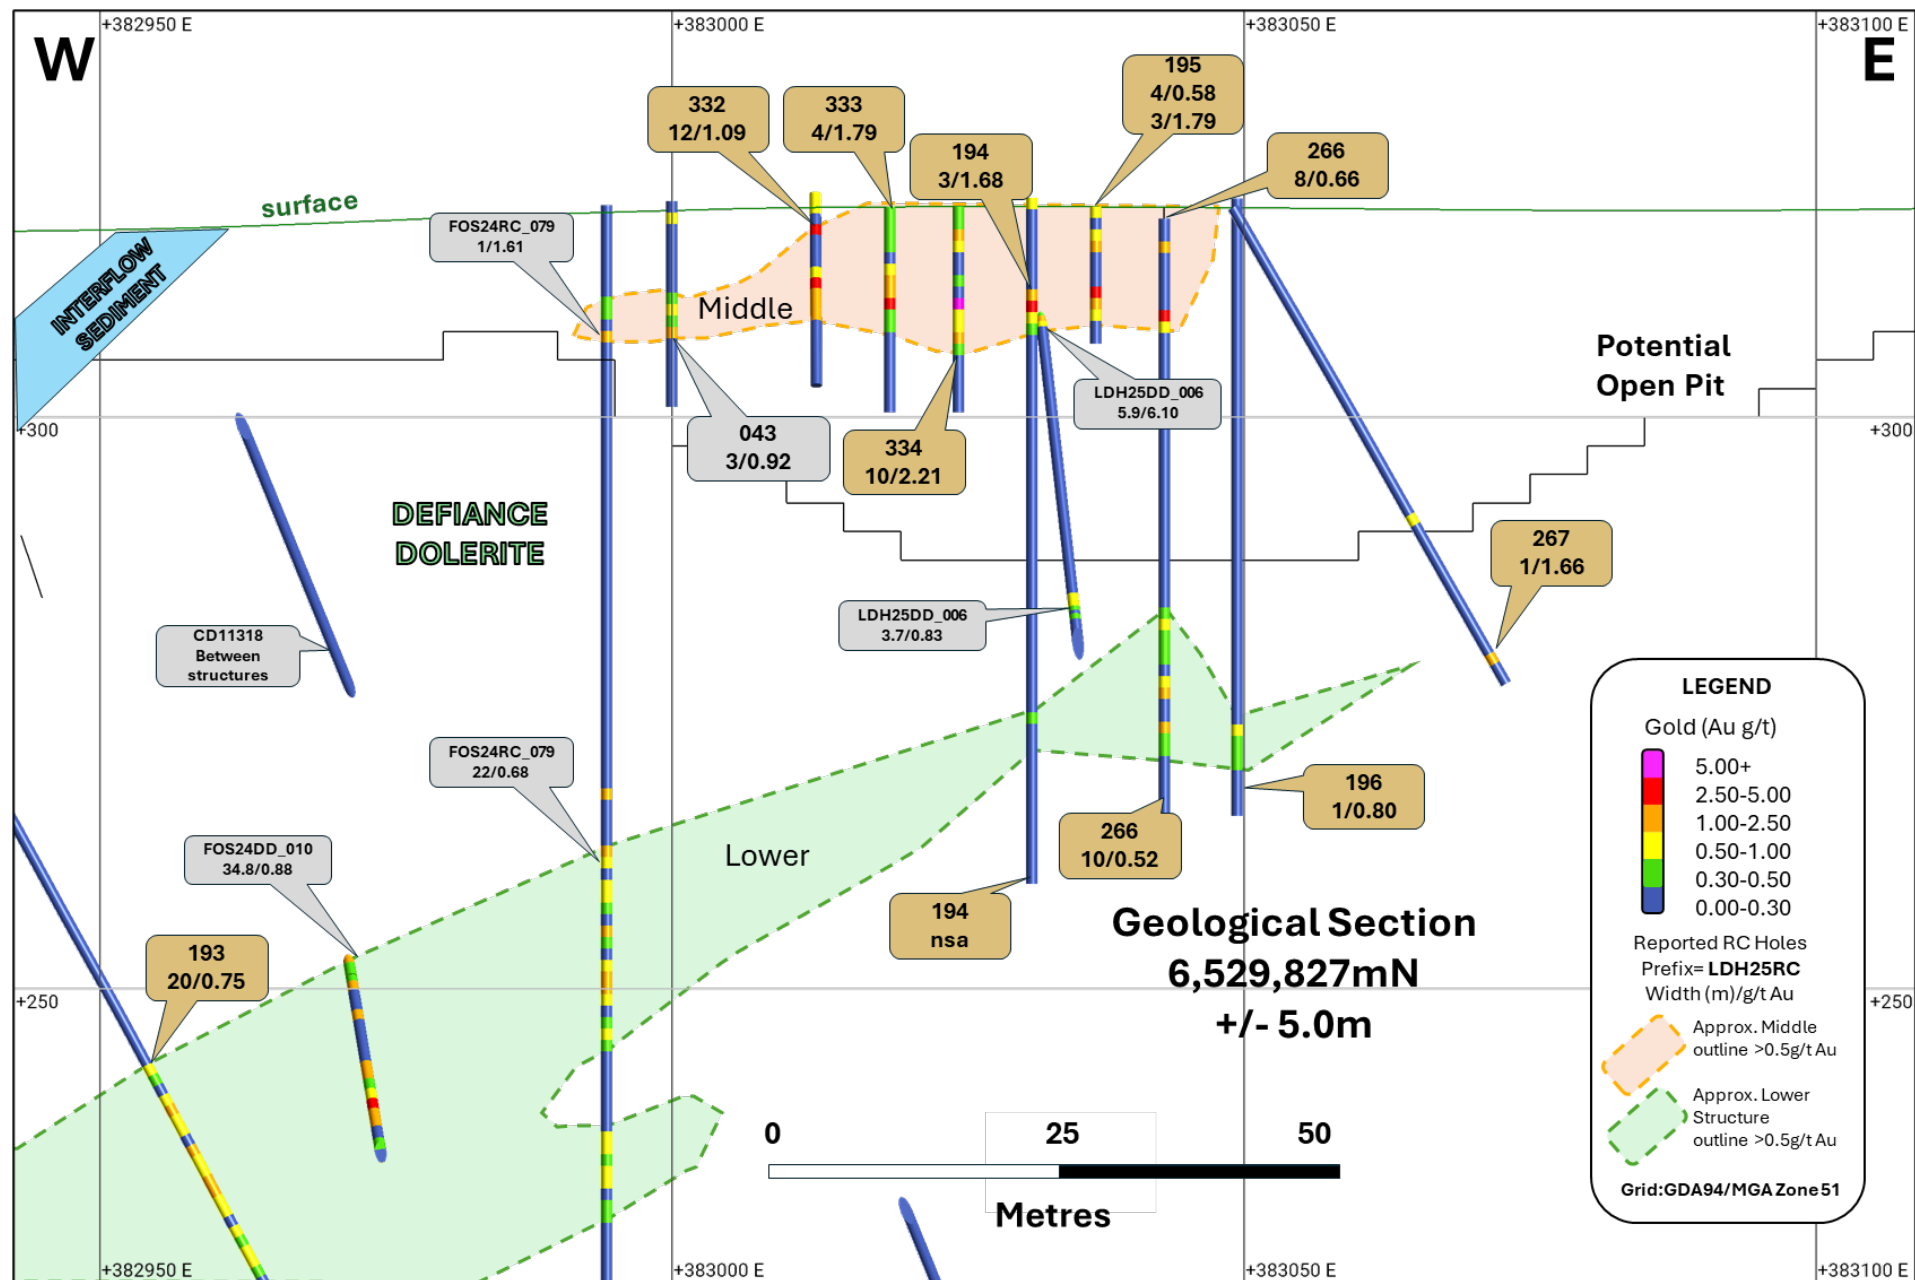

Figure 2: Section 6,529,827mN (looking north +/- 5m) illustrating the results reported today (gold call-outs) and prior reported results (grey call-outs).
The following **Figures 2 through 12** depict representative sectional views of the Lady Herial Lower, Middle and where relevant Upper Structures and the results reported today. The sections are presented as follows:
- **Lower Structure – Figures 2 to 7**, sections moving north to south from 6,529,827mN to 6,529,752mN.